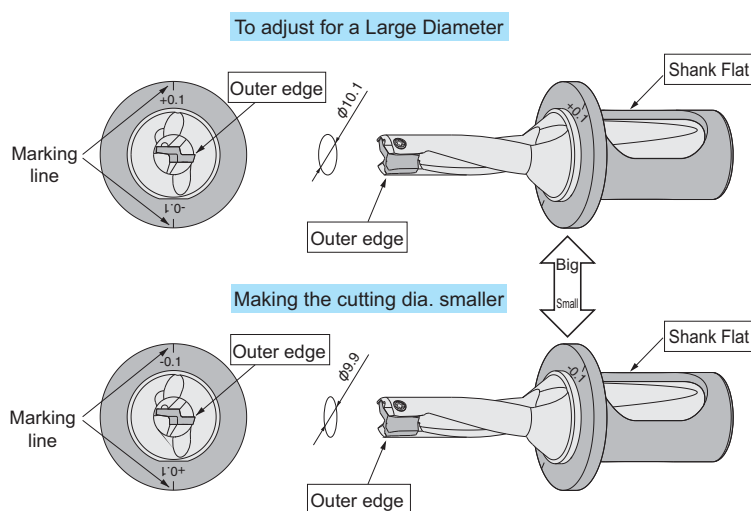

Fig.1 Diameter Adjustment Method (e.g.) $\phi 10$ Drill
- Set the outer edge horizontally with 90° to making line on the sleeve. (Fig.1)